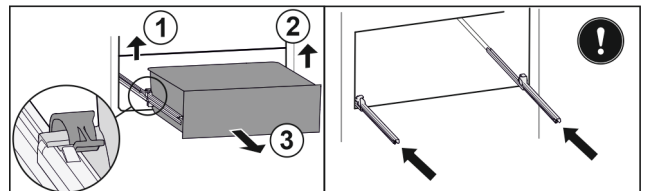

Fig. 152
- Lift left clamp and simultaneously pull drawer forwards on the left. Fig. 152 (1)
- Lift right clamp and simultaneously pull drawer forwards on the right. Fig. 152 (2)
- Remove drawer to the front. Fig. 152 (3)